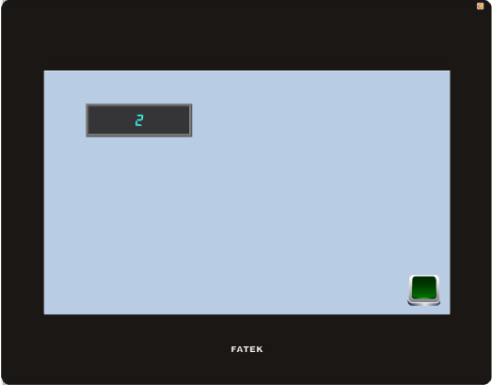

Figure 420 Offline Simulation
**Offline Simulation** is as shown in Figure 420. A simulator will open on the PC and create a virtual PLC that is connected to the HMI in the memory of the PC. Therefore, no communication errors will be generated during the simulated connection. The simulated connection is used to verify the accuracy of the screen and logic.